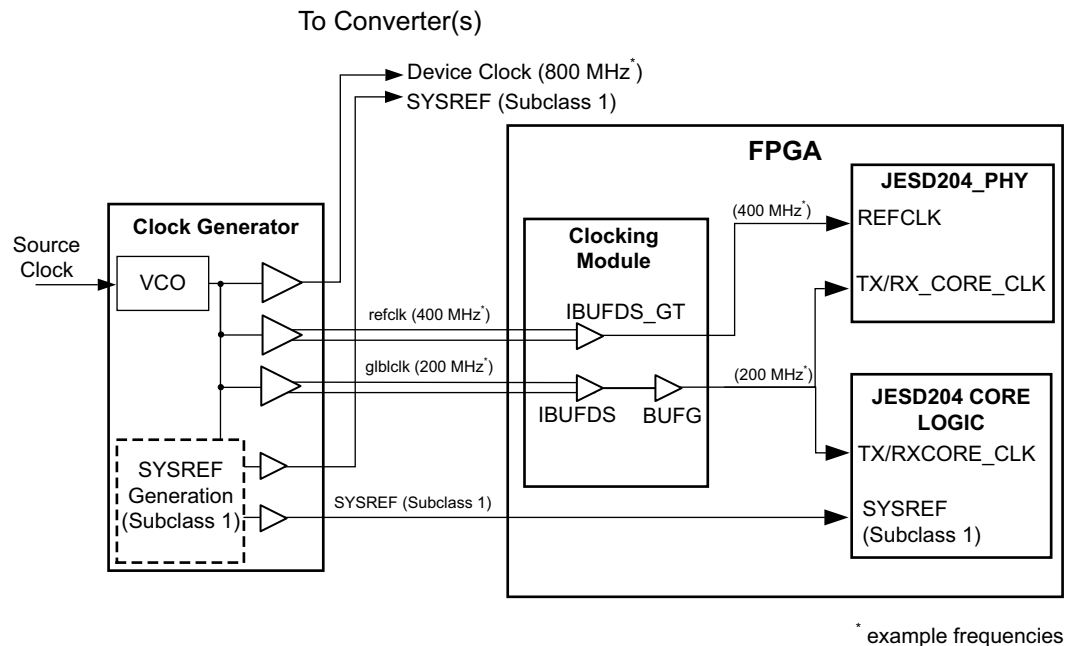
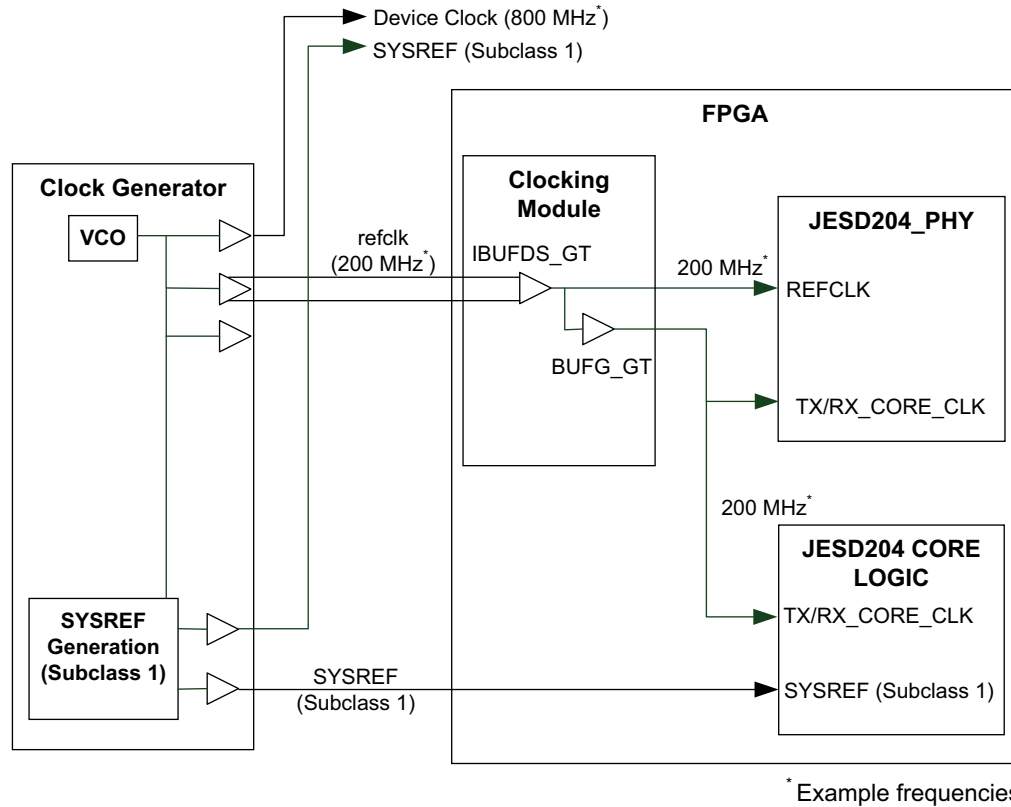
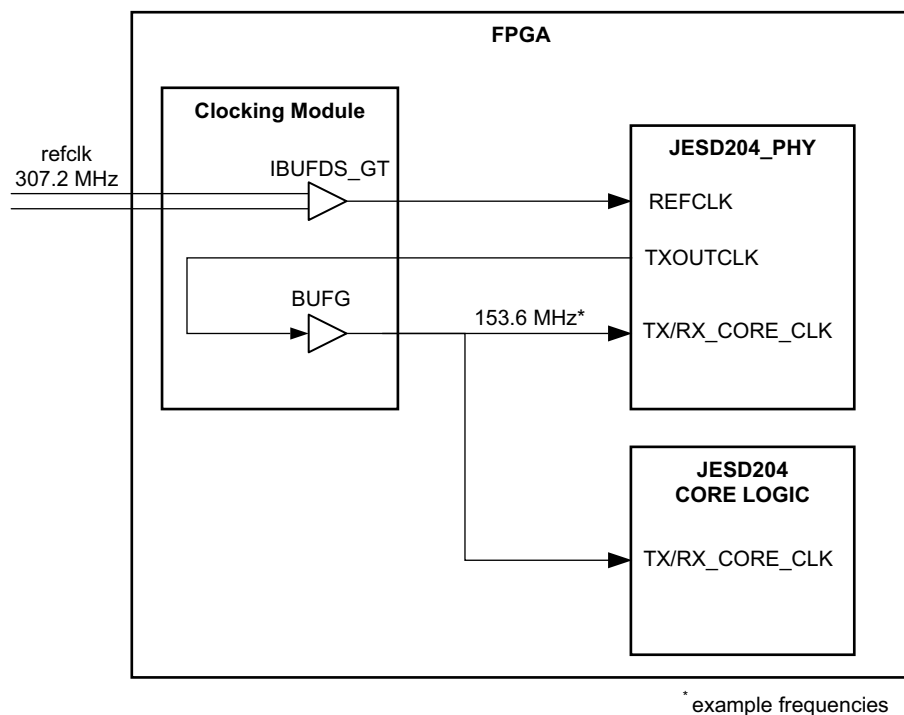

Figure 3-1: Clock Configuration using Separate refclk and Core Clock
Figure 3-3: UltraScale - Simple Clock example
Figure 3-5: Artix-7, Kintex-7, Virtex-7 Subclass 0 Clocking
Figure 3-1 shows the most generic and flexible clocking scheme, where separate `refclk` and `glblclk` inputs are used to provide the transceiver reference clock and the core clock, respectively. With this configuration, the reference clock and core clock are physically separate clocks and can be run at independent frequencies, without additional constraints. The reference clock can be run at any frequency within the limitations of the transceiver for the selected line rate. The core clock always runs at the required rate (1/40th of the serial line rate).
3. If these conditions are met, the clocking in Figure 3-2 can be used. Otherwise, the clocking in Figure 3-1 must be used.
2. If these conditions are met, the clocking in Figure 3-2 can be used. Otherwise, the clocking in Figure 3-1 must be used.
2. If these conditions are met, the clocking in Figure 3-3 can be used. Otherwise, the clocking in Figure 3-1 must be used.
For Kintex UltraScale and Virtex UltraScale devices, the clocking arrangement in Figure 3-3 can be used. For Artix-7, Kintex-7 and Virtex-7 devices, it is possible to use the TXOUTCLK from the JESD204\_PHY core to generate the core clock. Figure 3-5 shows the generic use case for most devices. However, GTP transceiver devices using a JESD204\_PHY core configured to use shared logic in the example design still require an additional MMCM (described earlier) for generation of TXUSRCLK/RXUSRCLK at twice the core clock.